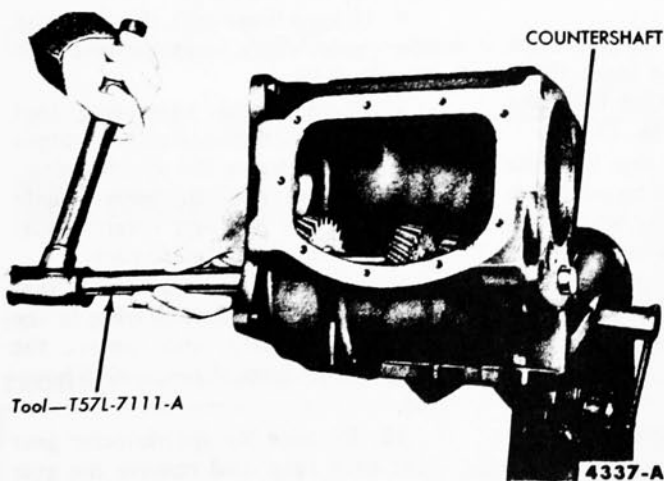

FIG. 3—Countershaft Removal
8. Using the pilot tool shown in Fig. 3, drive out the countershaft. As